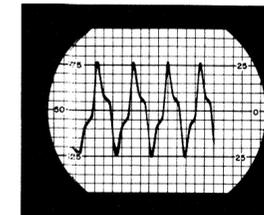

Figure 2.
- (2) With this input signal level, adjust the IDC control on the transmitter to provide a 10-square peak-to-peak recovered signal on the oscilloscope. This is equivalent to  $\pm 5$  kHz deviation (preceding the tripler; see figure 2) or  $\pm 15$  kHz deviation of the actual carrier.